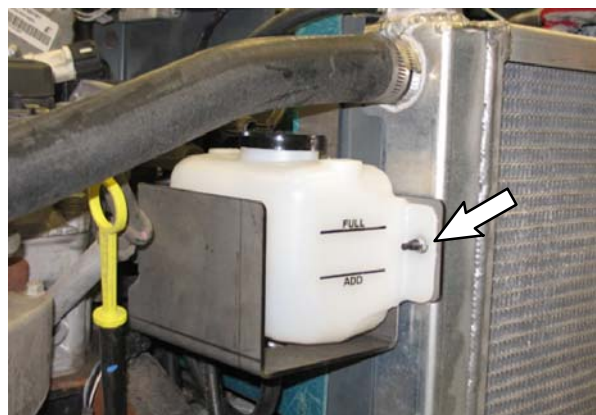

FIG. 76
93. Use saved hardware to install coolant tank (112) into the bracket (113) and install the coolant tank / bracket onto the radiator shroud. Note orientation of hardware. (Fig. 76)